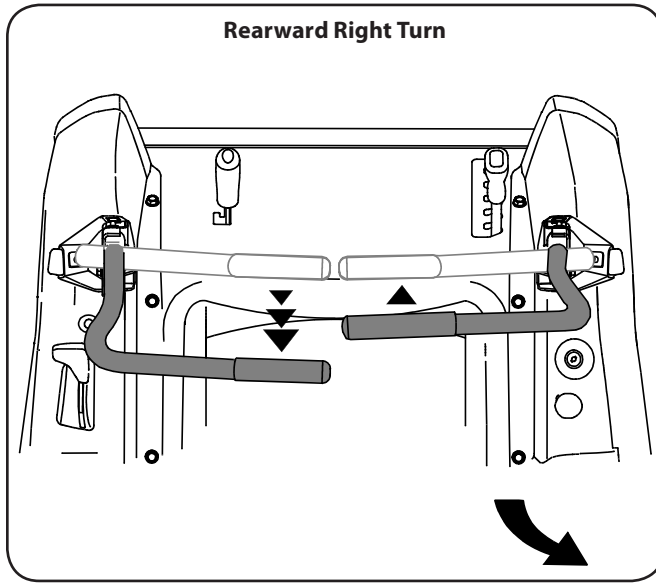

Figure 5-8
- To turn to the right while traveling in reverse, move the right drive control lever forward of the left lever. See Fig. 5-8.